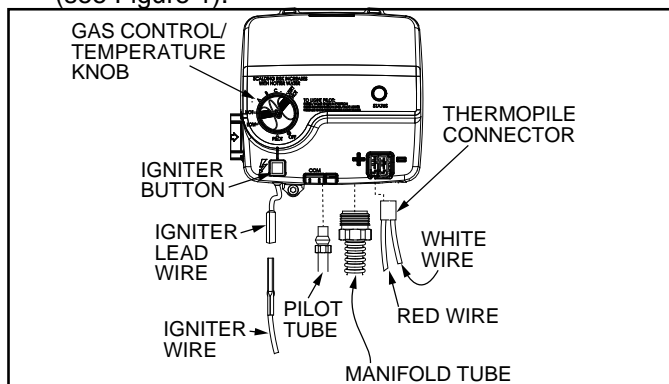

Figure 33
1. Turn the gas control/temperature knob to the "OFF" position (see Figure 31 and Figure 33).
4. Disconnect the igniter wire from the igniter lead wire. Use needle nose pliers to disconnect the thermopile connector. Disconnect the pilot tube (7/16" wrench) and manifold tube (3/4" wrench) at the gas control valve/thermostat (see Figure 33).
**Note:** Propane (LP) Gas systems use reverse (left-hand) threads on the manifold tube.
4. Disconnect the following from the gas control valve/thermostat: pilot tube (7/16" wrench), igniter wire (from the igniter lead wire), and manifold tube (3/4" wrench) (see Figure 33).
5. Use needle nose pliers to disconnect the thermopile connector from the gas control valve/thermostat (see Figure 33).
6. Reconnect the manifold tube (3/4" wrench) and pilot tube (7/16" wrench) to the gas control valve/thermostat (see Figure 33). Do not cross-thread or apply any thread sealant to the fittings.
7. Connect thermopile connector to the gas control valve/thermostat (see Figure 33).
8. Reconnect the igniter wire (see Figure 33).